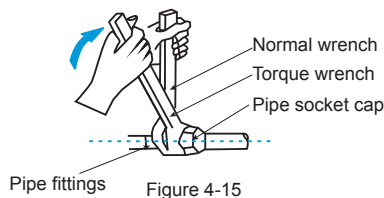

Figure 4-15
- Use two wrenches when you install or dismantle the piping, a common wrench and a torque wrench. See Figure 4-15.